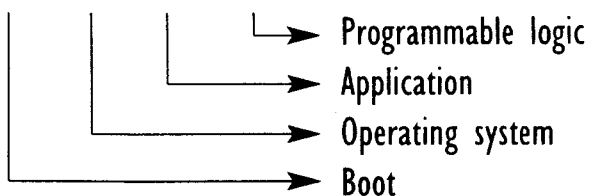

Figure 1: Breakdown of the program version code.
- 2) Locate the "program version"-text in the information window. Figure 1 shows the interpretation of the program version. The program version will be updated after the software upgrade process described in this document is completed.